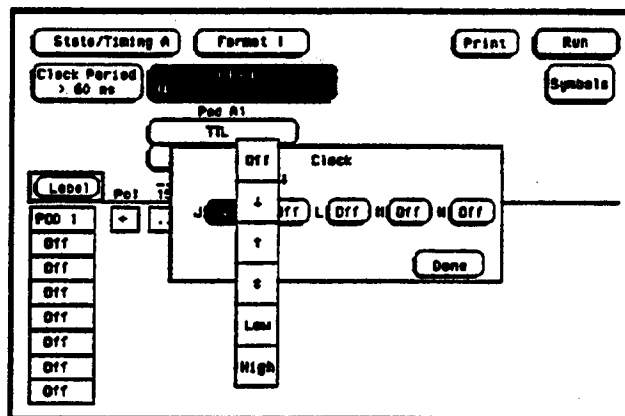

Figure 3-6. Format Screen/Clock Assignment
- a. Touch top most Clock field and set appropriate clock for a falling edge. See figure 3-6. Each pod contains one clock line. The clock line on pod 1 is the J clock; the clock line on pod 2 is the K clock; etc.